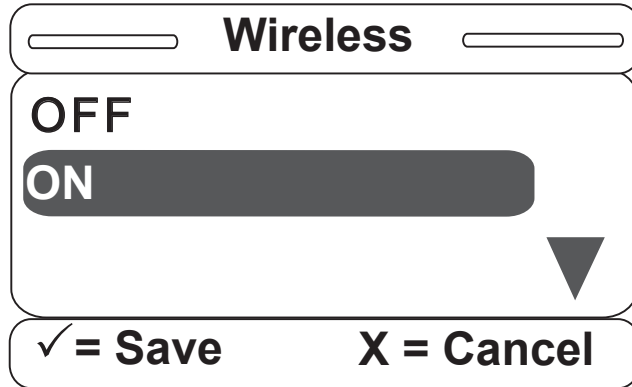

Figure S-19
19. Once the Wireless item is selected, the screen in Figure S-19 will be displayed. You can set the Wireless option to ON. Hit “Enter” on the footboard panel to make your selection or “Exit” to cancel the operation.